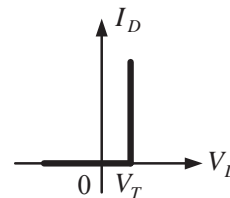

Fig. 1-9
2. Simplified Model: (see Fig. 1-9);
3. Ideal Model: (see Fig. 1-9);